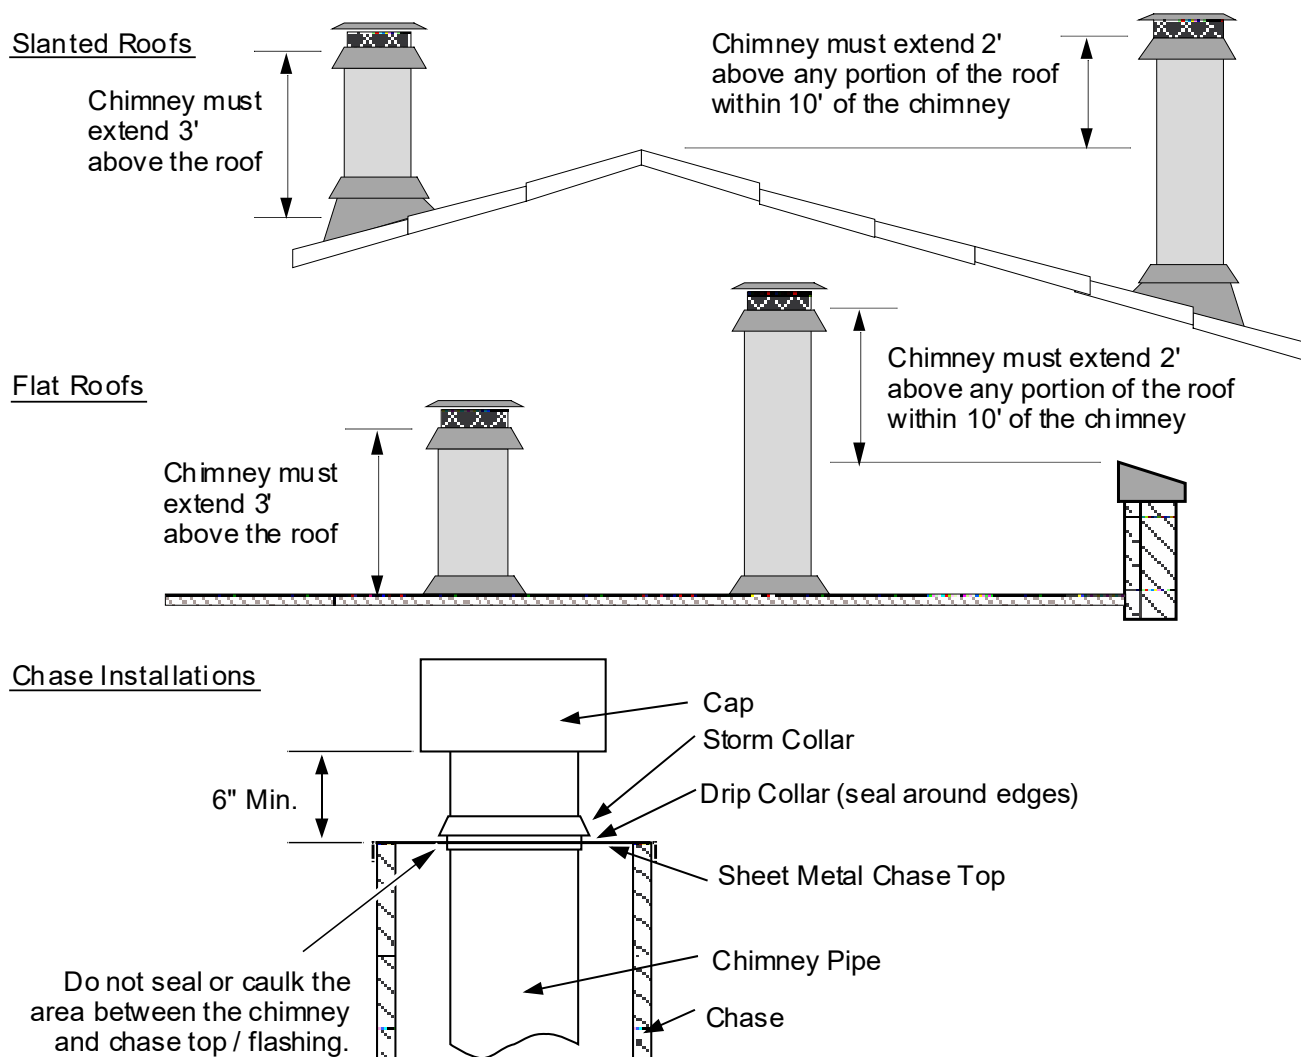

Figure 25
- The chimney must terminate a minimum 3' above the roof and 2' above any portion within 10' (measured horizontally – see Figure 25). This applies to flat and sloped roofs.